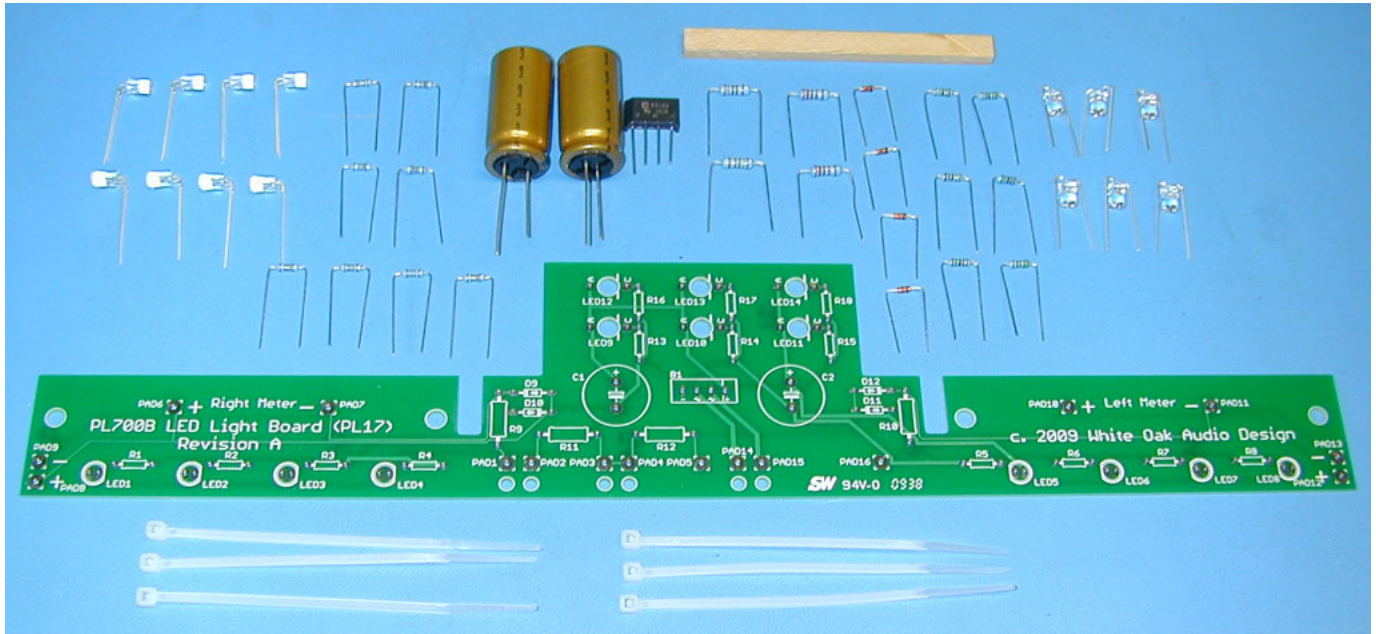

Figure 6. PL700B LED Light Board Kit Contents
1. [] Bend the leads of each of the four BAV21 diodes on 0.4 inch (10mm) centers as shown in Figure 6. Carefully install each diode into the locations marked D9 through D12 as shown in Figure 11, matching the imprint on the PC board silkscreen. Diodes are polarized so it does matter which way you orient them. Each diode has a small band imprinted on it at the cathode end. Align the band on each diode with the band shown on the silkscreen. Carefully solder each diode to the board. After soldering, clip the excess lead length leaving about 1/16" protruding from the PC board surface.
2. [] Bend the leads of each of the two 1.8K ohm resistors on 0.6 inch (15mm) centers as shown in Figure 6. Carefully install each resistor into the locations marked R9 and R10 as shown in Figure 11, matching the imprint on the PC board silkscreen. Resistors are not polarized so it does not matter which way you orient them. Carefully solder each resistor to the board. After soldering, clip the excess lead length leaving about 1/16" protruding from the PC board surface.
3. [] Bend the leads of each of the two 22K ohm resistors on 0.6 inch (15mm) centers as shown in Figure 6. Carefully install each resistor into the locations marked R11 and R12 as shown in Figure 11, matching the imprint on the PC board silkscreen. Resistors are not polarized so it does not matter which way you orient them. Carefully solder each resistor to the board. After soldering, clip the excess lead length leaving about 1/16" protruding from the PC board surface.
4. [] Bend the leads of each of the six 150 ohm resistors on 0.4 inch (10mm) centers as shown in Figure 6. Carefully install each resistor into the locations marked R13 through R18 as shown in Figure 11, matching the imprint on the PC board silkscreen. Resistors are not polarized so it does not matter which way you orient them. Carefully solder each resistor to the board. After soldering, clip the excess lead length leaving about 1/16" protruding from the PC board surface.
13. [] Bend the leads of each of the eight 100 ohm resistors on 0.4 inch (10mm) centers as shown in Figure 6. **BACK ON THE SILKSCREEN SIDE** of the PCB, carefully install each resistor into the locations marked R1 through R8 as shown in Figure 11, matching the imprint on the PC board silkscreen. Resistors are not polarized so it does not matter which way you orient them. Carefully solder each resistor to the board. After soldering, clip the excess lead length leaving about 1/16" protruding from the PC board surface.